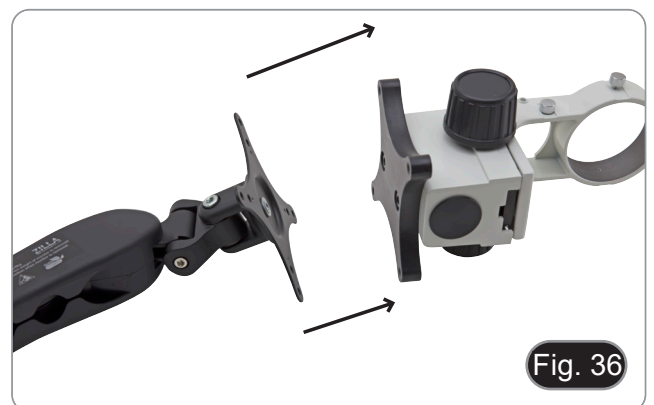

Fig. 36
10. Mount the focus on to the arm, using the provided screws and Allen wrench. (Fig. 36)